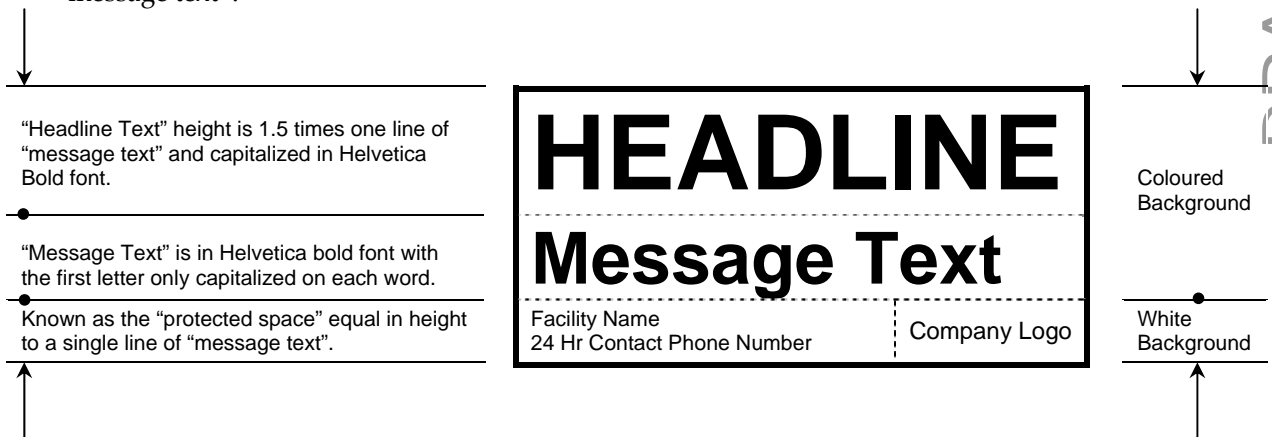

Figure 1B – Sign Format
- The format of a sign may consist of a “headline text” at the top but must have a “message text” in the centre and a white protected space along the bottom with the corporate logo in the bottom right hand corner (see Figure 1B).